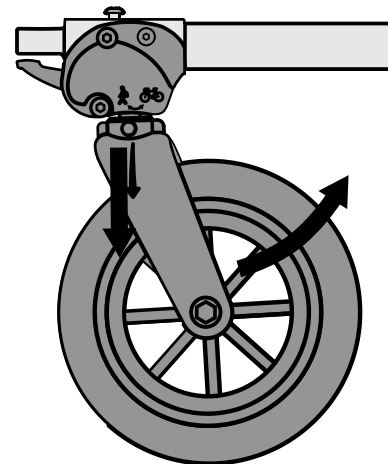
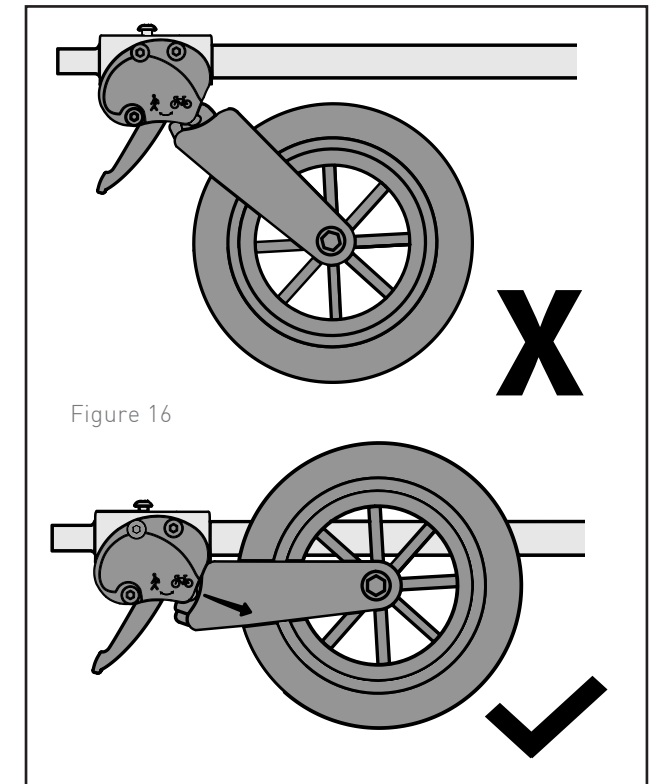

Figure 15
Figure 16
1. Pull fork down (Figure 15) and rotate up into trailer mode as shown. Fork will automatically lock into trailer position when positioned correctly (Figure 16).